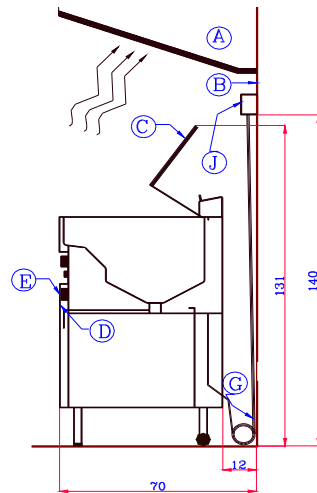

Fig. 3: Fryer against wall, with switchbox IP X5
3.2.3 Installation example III (Fig. 3)